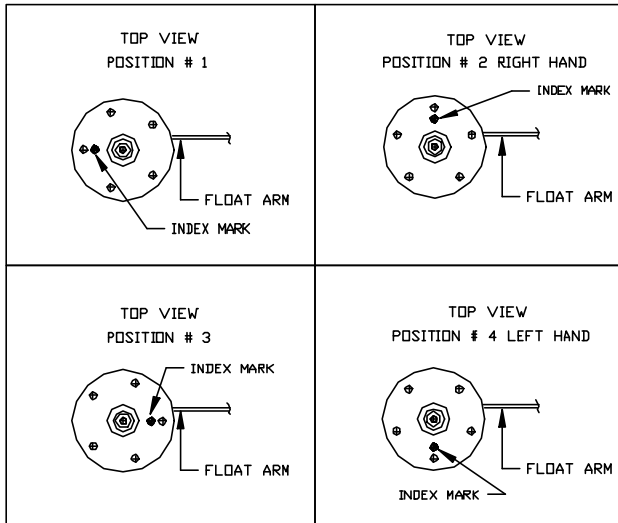

FIGURE 1.
**STEP 1.** Determine required float arm position. (Unless otherwise specified, senders are assembled for Right Hand float arm position.) Position is defined by comparing the screw hole pattern on the tank to Figure 1 below.
**STEP 2.** If necessary to reposition float arm for left hand positioning loosen lower 10/32 hex nut and rotate index hole 180°. If hex nut is removed from stud, care must be taken that the sealing hardware is correctly reassembled onto stud. Tighten hex nut to 16 – 20 inch pounds. See buildup of hardware above (Figure 1).